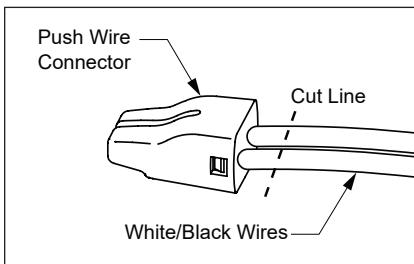

Figure 47 - Cut Wires at Push Connectors
- 5** Locate the push wire connector joining the power cord's white wire (neutral) to the water heater's white wire. Cut the wires at the connector to remove them (see Figure 47). Properly dispose of wire connector.
- 6** Locate the push wire connector joining the power cord's black wire (line) to the water heater's black wire. Cut the wires at the connector to remove them (see Figure 47). Properly dispose of wire connector.